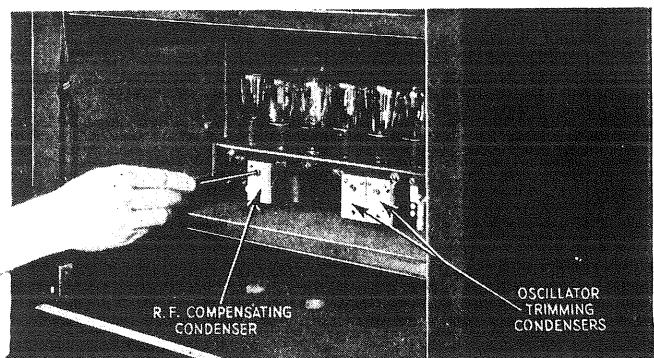

Figure 11—Method of adjusting compensating and oscillator trimming condensers in cabinet
- (c) Locate the position of the compensating condenser (See Figure 11).
After the I.F. transformers are properly tuned and neutralized they should perform at their maximum efficiency. It is a good plan to check the adjustments of the two oscillator trimming condensers (See Figure 11) at this point. The correct method for doing this is indicated in Part II, Section 17.